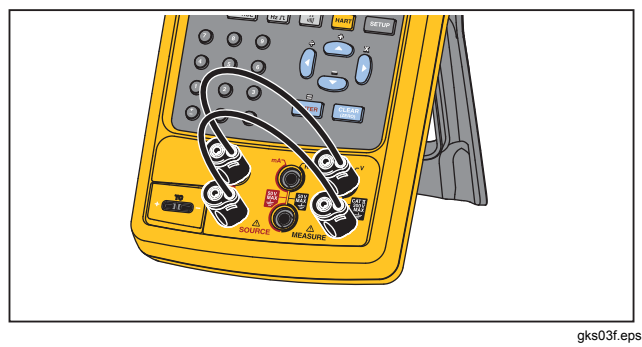

Figure 2. Jumper Connections
2. Connect voltage output to the voltage input. To do this connect the left pair of jacks (V Ω RTD SOURCE) to the right pair of jacks (V MEASURE). See Figure 2.